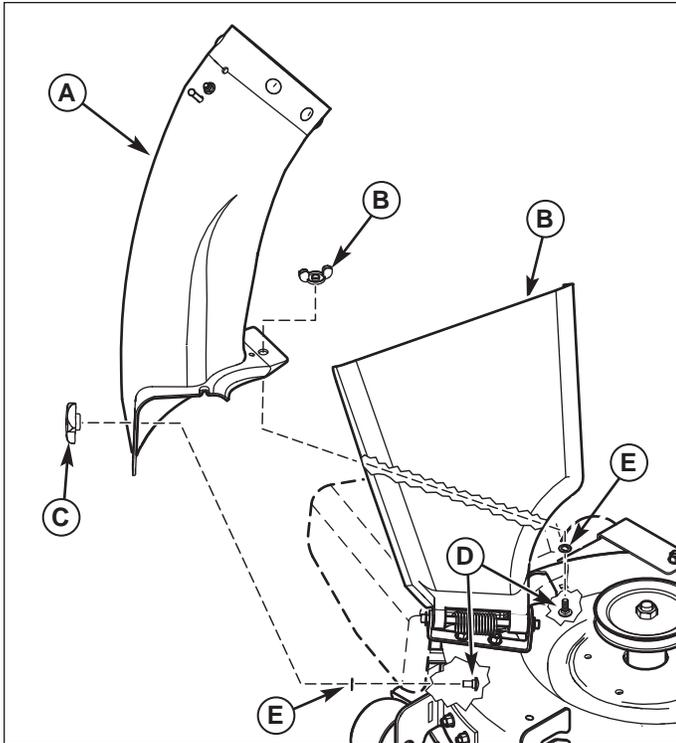

Figure 7. Install Chute
1. Install 5/16 x 3/4" carriage bolts (D, Figure 7) with 5/16 push nuts (E) to mower deck as shown.
3. Place the holes of the chute (A) onto carriage bolts (D, installed in step 1), sliding the front edge of the chute under the hinge bracket.
4. Secure knob (C) onto carriage bolt (D) as shown.
5. Secure wing nut (F) onto carriage bolt (D) as shown.